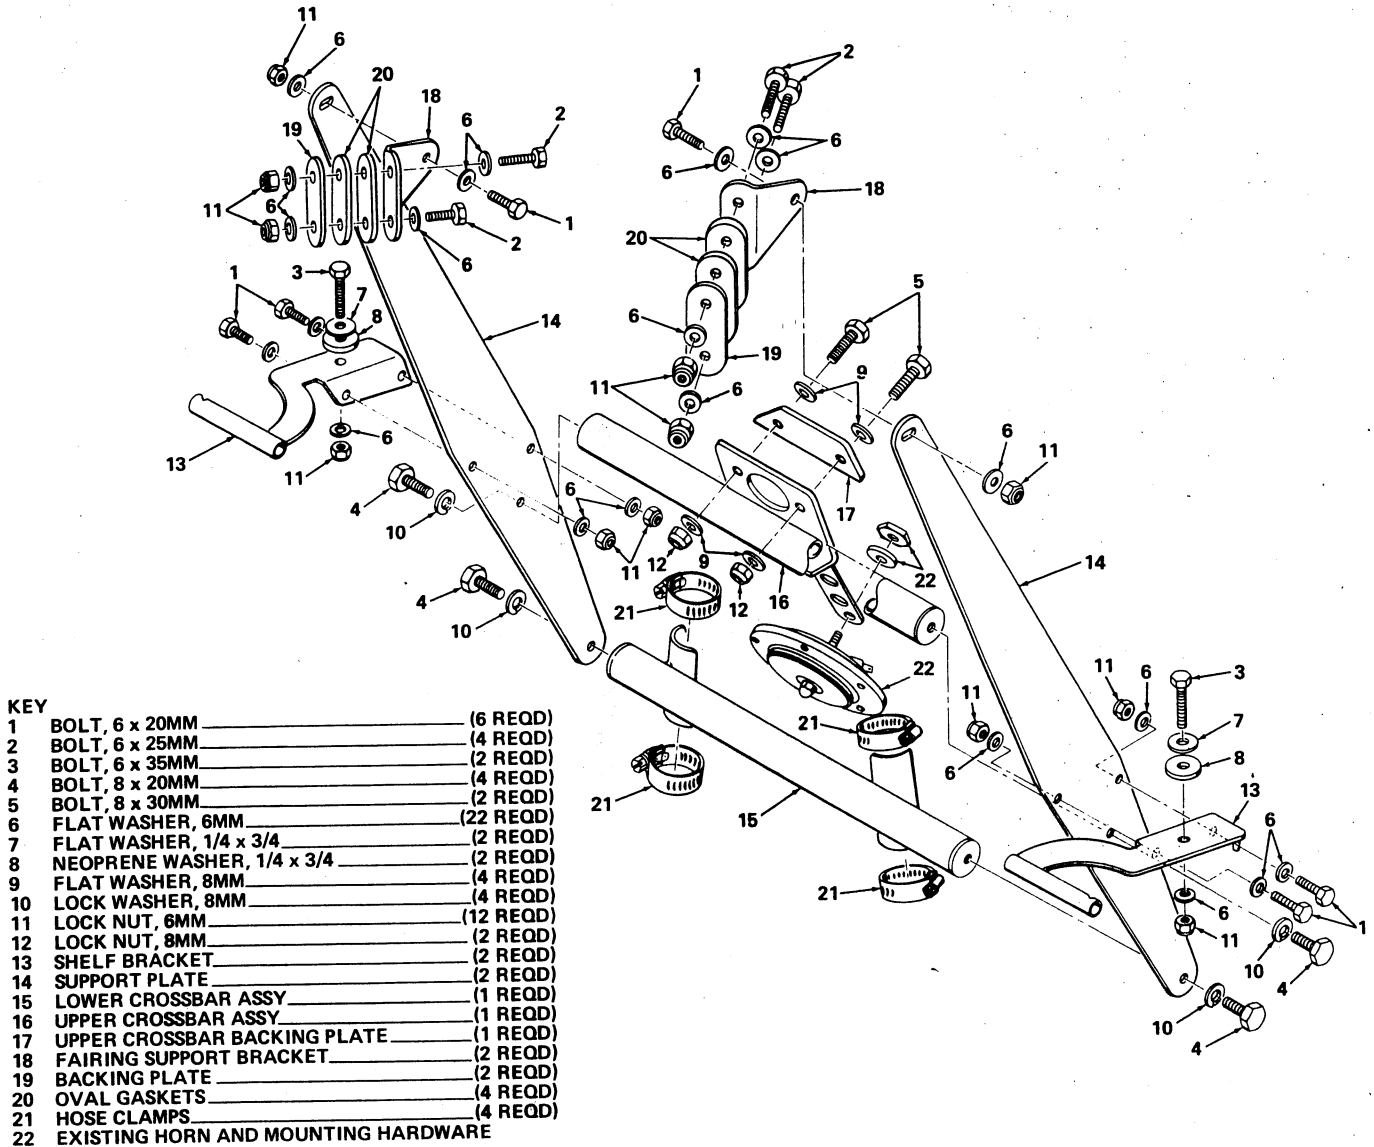

FIGURE 4-A-1
- 4-A-1. One at a time peel backing sheet off oval gaskets (20) and attach one to each backing plate (19) and fairing support bracket (18).
- 4-A-3. Assemble mounting bracket using figure 4-A-1 as a guide. Do not assemble upper crossbar backing plate at this time. Tighten all bolts securely, except leave bolts (4) loose so that the upper crossbar and lower crossbar can be adjusted to fit the motorcycle frame.